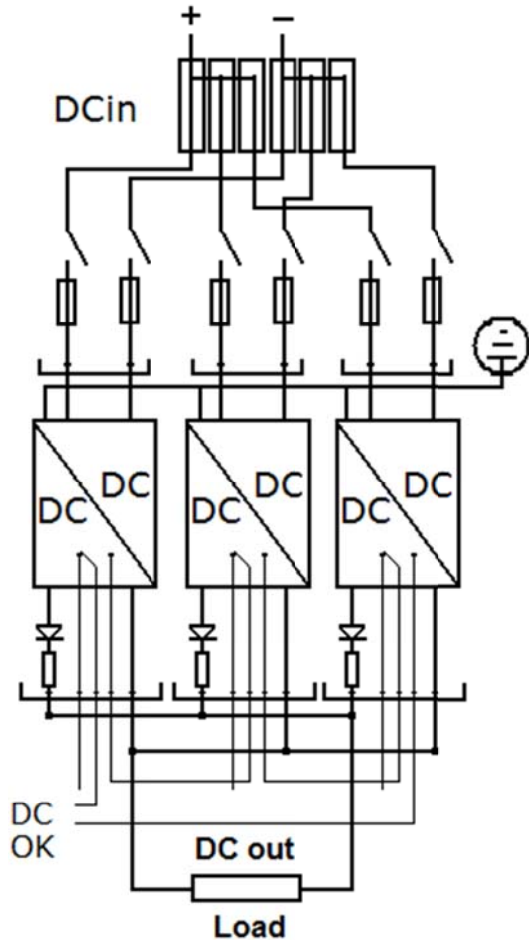

Figure 2. An N+1 system with two units for the load and one for the redundancy.
The Figure 2 shows an N+1 system with two units for the load and one for the redundancy. Each DC/DC converter has a built in; series diode (C), balancing resistor (R) and alarm relay outputs. The alarm is cascade connected. Note that each DC/DC converter has individual external input fuses.